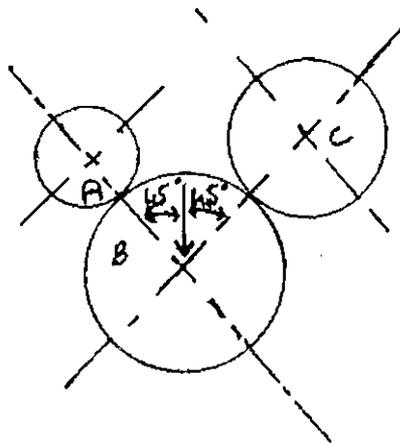

Fig. 1
12. (a) The pitch circles of a train of spur gears are shown in Fig. 1. Gear A receives 3.5 kW power at 700 r.p.m. through its shaft and rotates in the clockwise direction. Gear B is the idler gear while gear C is the driven gear. The number of teeth on gears A, B and C are 30, 60 and 40 respectively, while the module is 5 mm.